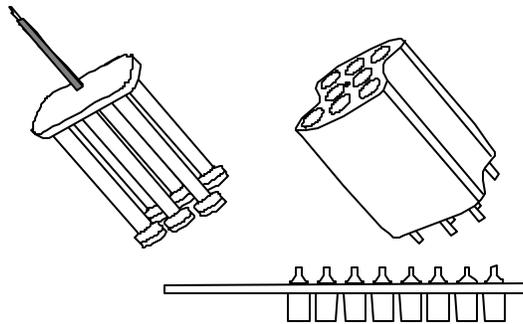

**Figure 4: Removing Piston/Cylinder and Manifold Assemblies**
5. Remove the piston/cylinder assembly by pulling the motor screw down from the motor shaft coupling and out of the main housing. Also, remove the manifold assembly by firmly lifting it out of the main housing support ribs (see Figure 4).